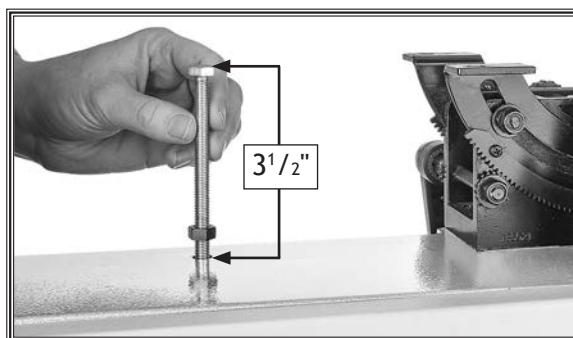

Figure 19. Installing hex bolt to set positive stop.
1. Thread (1) M8-1.25 hex nut partially onto M8-1.25 x 110 hex bolt, as shown in **Figure 19**, then thread bolt into panel above lower wheel until top of bolt is approximately $3\frac{1}{2}$ " above panel. Finger-tighten hex nut for now. (Refer to **Adjusting Positive Stop** on **Page 40**.)